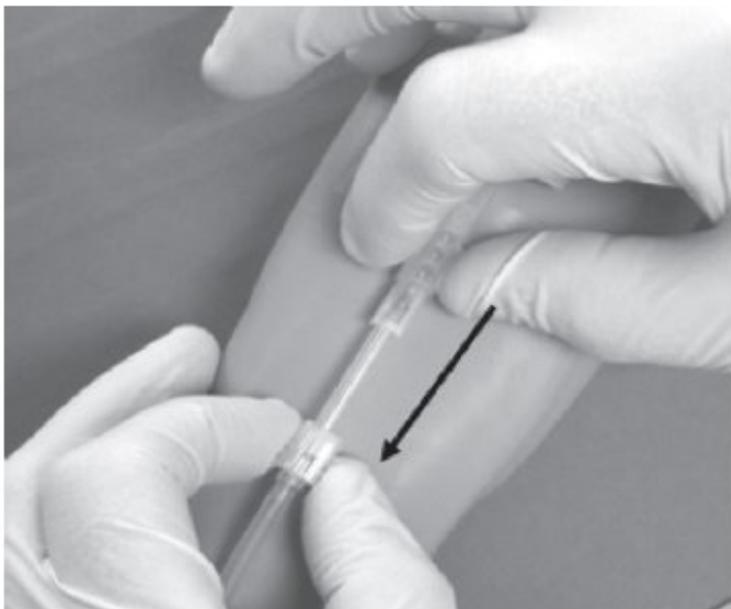

Figure 3
21. Withdrawal of Needle (see Figure 3).